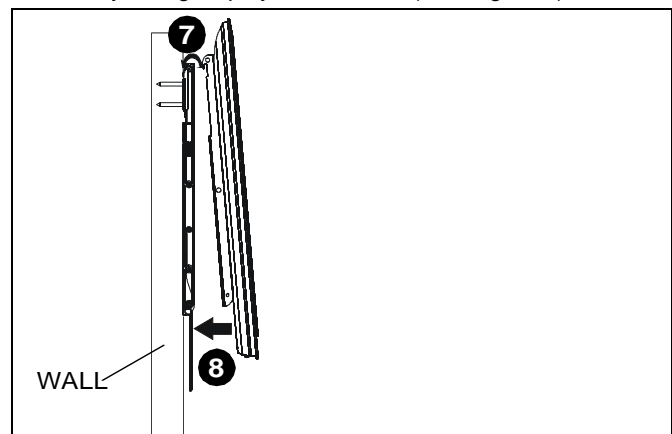

Figure 4
7. Slowly guide hooks on top of interface brackets on top of wall plate in desired mounting location. (See Figure 4)
8. Slowly swing display toward wall. (See Figure 4)